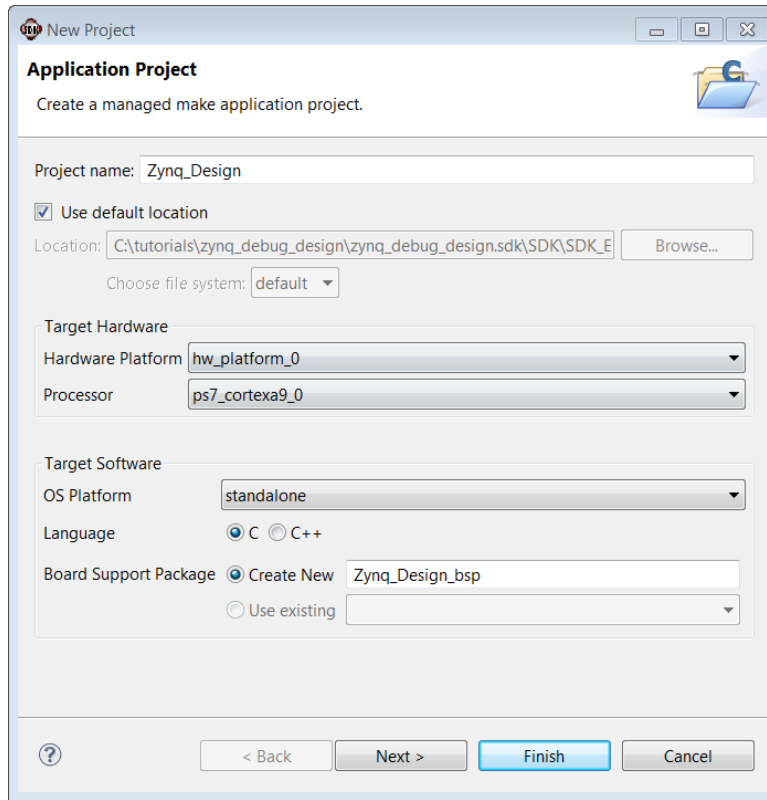

Figure 48: SDK Application Project
- In the Project Name field, type **Zynq_Design**, and click **Next** (Figure 48).